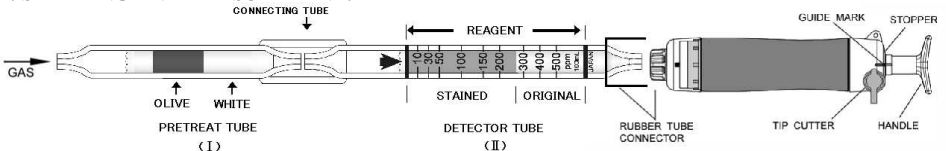

Fig.1
- ① Break both ends of the detector tube (II) and pretreat tube (I), and connect each end of the detector tube and pretreat tube with connecting tube as shown in Fig.1.
- ② Insert the detector tube into the aspirating pump securely as shown in Fig.1. (Arrow mark shall point to the pump.)
- ③ Align the guide marks on the shaft and stopper of the aspirating pump.
- ④ Pull pump handle at a full stroke until it locks and wait for 2 minutes or until the completion of sampling is confirmed with the flow indicator of the pump. (See descriptions about the flow indicator in the instruction manual of the pump.)
- ⑤ On completion of sampling, read the scale at the maximum point of the stained layer.